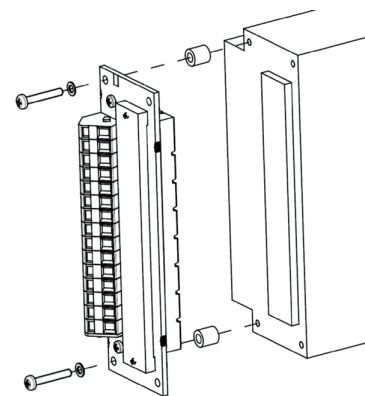

Fig. 46
- Cage clamp adapter HZZ00144-G; see fig. 46